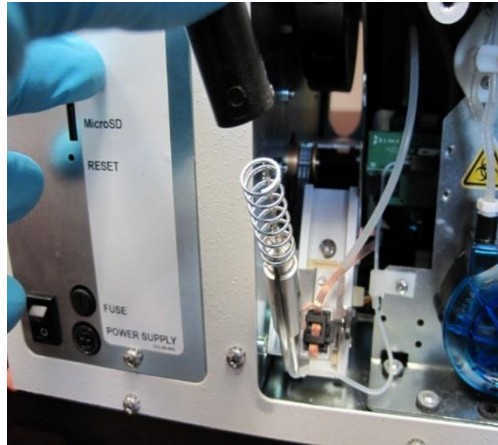

Figure 13
14. Replace the Needle Spring and Probe Tube with new parts provided. The Probe Tube should be placed onto the Needle Spring with the yellow warning label and the Thumbscrew hole directly facing you as it was when it was removed. Figure 13